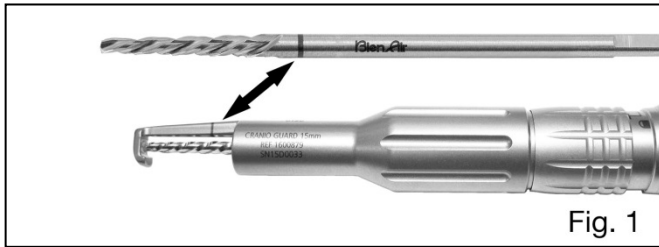

Fig. 1
Cranio-guard identification: The marking according to **Fig. 1** helps to clearly see the cranio-guard length and corresponding rotary instrument:
- Length 15mm: One line on the rotary instrument and cranio-guard (**Fig. 1**).